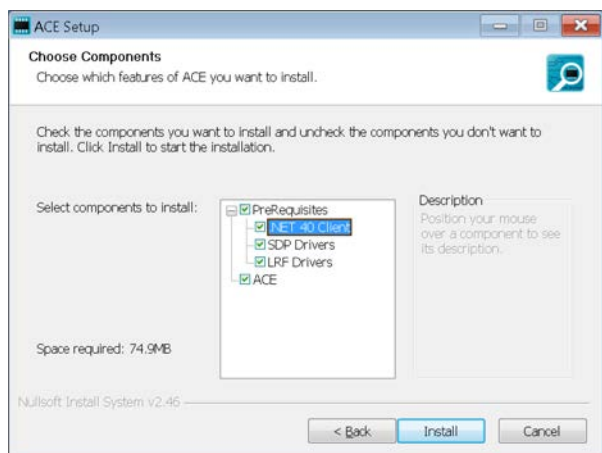

Figure 3. Required Driver Installations with the ACE Software
3. Install the latest version of the ACE software. During the installation, ensure that the **.NET 40 Client**, **SDP Drivers**, and **LRF Drivers** components are selected (see Figure 3).